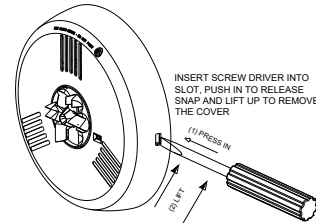

Figure 5: Removing the Cover
8. To remove the appliance, insert a small flat-bladed screwdriver into the bottom opening 1/2" as shown in Figure 5. Then pry off beauty cover with the screwdriver.